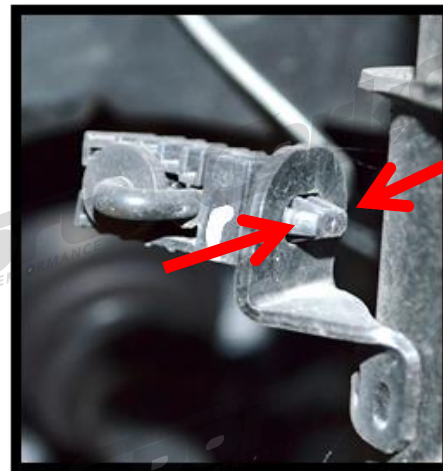

Figure 2b
- b) Remove the ABS sensor attachments from the strut (shown in Figure 2b and 2c).
- b) Remove the ABS sensor attachments from the strut (shown in Figure 2b and 2c). Use a pair of needle nose pliers to carefully squeeze the tabs in the direction of the red arrows.
m) Replace the ABS sensor clips removed in Figures 2b and 2c.